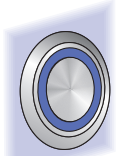

Fig.1
You just have to press it again to stop water hydromassage (Fig.1).
- Get into the water and press the start button (Fig. 1).